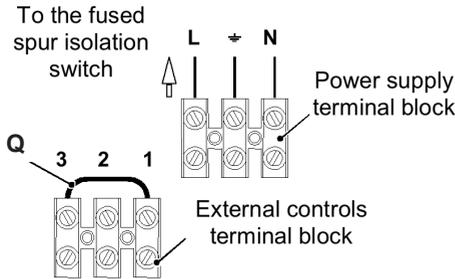

Fig. 6.13
- Connect the electrical supply flexible cord coming from the fused spur isolation switch to the power supply terminal block of the boiler (Fig. 6.13) keeping the same connections for the live (brown wire) and the neutral (blue wire). External 3 A fuse or fused plug with same current rating is recommended. **Do not connect live wires to terminals to which the room thermostat must be connected.**
When connecting any type of external control, the link Q in Fig. 6.13 must be removed.